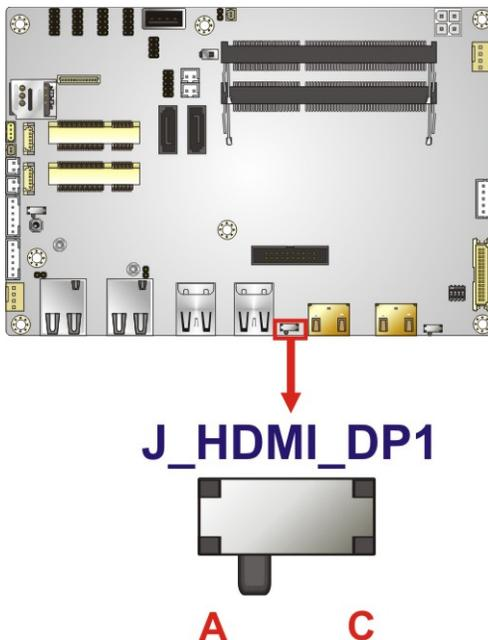

Figure 4-14: HDMI/DP Select Switch Location
- CN Location:** See **Figure 4-14**